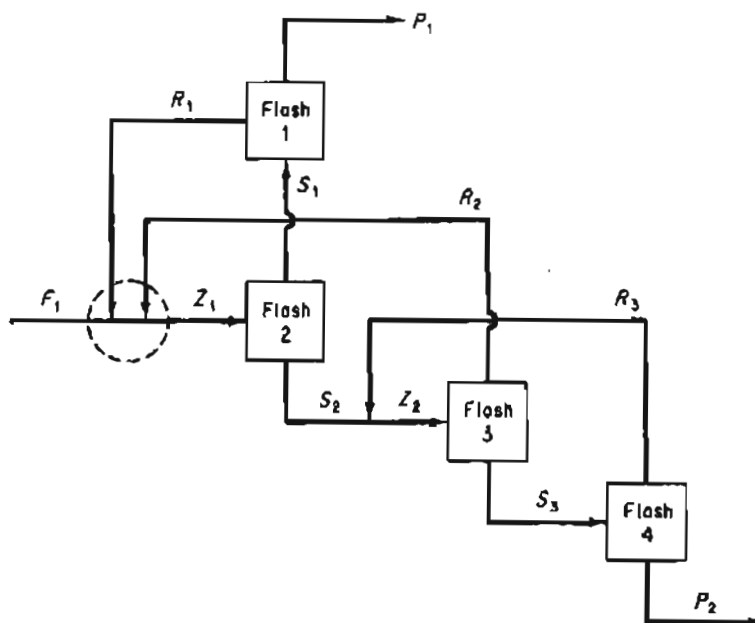

Figure P30.11
- 30.11** Cavett proposed the following problems as a test problem for computer-aided design. Four flash drums are connected as shown in Figure P30.11. The temperature in each flash drum is specified, and equilibrium is assumed to be independent of composition so that the vapor-liquid equilibrium constants are truly constant. Is the problem properly specified, or do additional variables have to be given? If the latter, what should they be? The feed is as follows